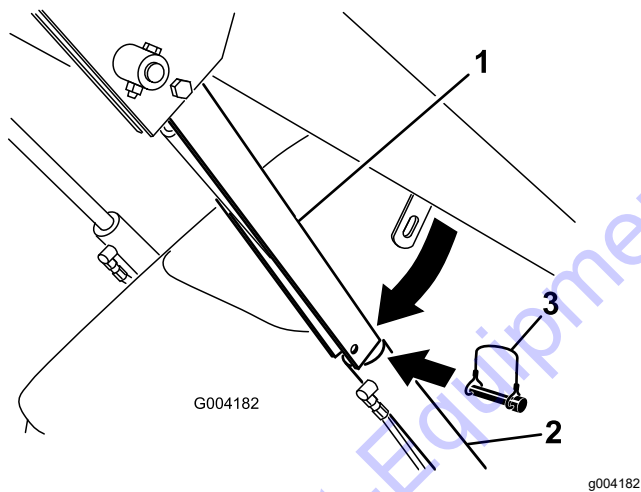

Figure 22
4. Remove the lynch pin securing the cylinder lock to the loader arm (Figure 22).
5. Lower the cylinder lock over the cylinder rod and secure it with the lynch pin (Figure 22).